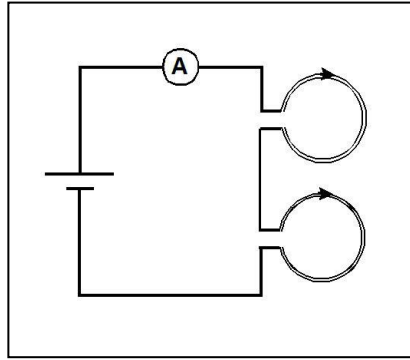

Figure 7: Helmholtz Wiring
2. Connect the second coils in series with the first coil, as shown in Figure 7. Make sure that the direction of the current in the wiring is taken care of correctly. This ensures that the magnetic field produced in both coils is in the same direction.